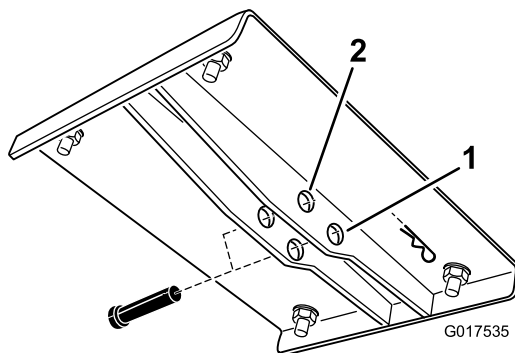

Figure 6
7. Locate the two sets of holes in the upper lift bracket (Figure 6). Select the set of holes in the bracket for the gasoline and diesel vehicles.